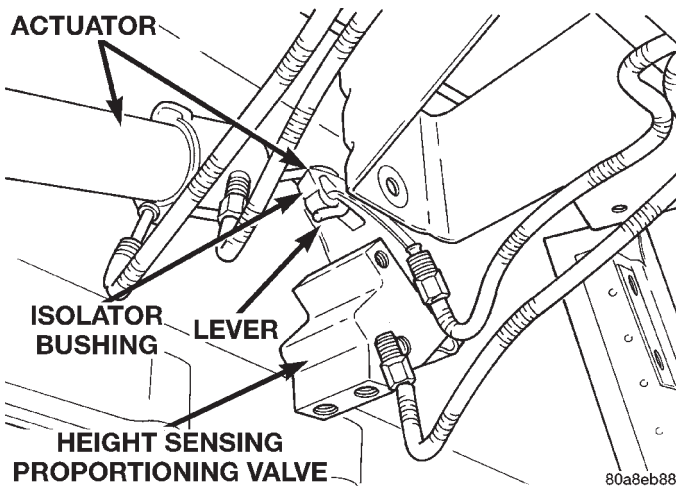

Fig. 136 Actuator Attachment To Proportioning Valve
(5) Remove the hooked end of the proportioning valve actuator (Fig. 136) from the isolator bushing on the lever of the height proportioning valve (Fig. 136).
(1) Install the hooked end of the actuator on the proportioning valve lever (Fig. 136). **Be sure isolator bushing on lever of proportioning valve (Fig. 136) is fully seated in hook of actuator.**